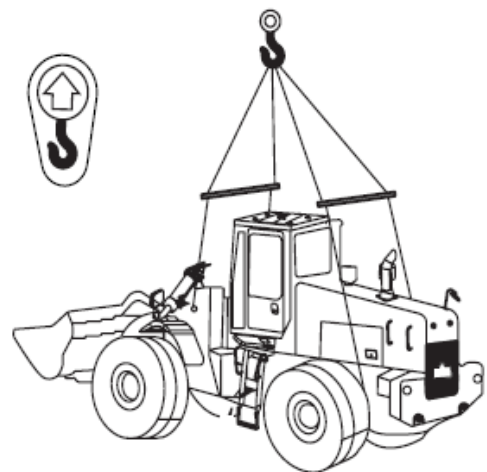

Fig.4
- Lift wheel loader using intended lifting eyes (see Figure 4) and "LOCK" articulated frame lock bar.